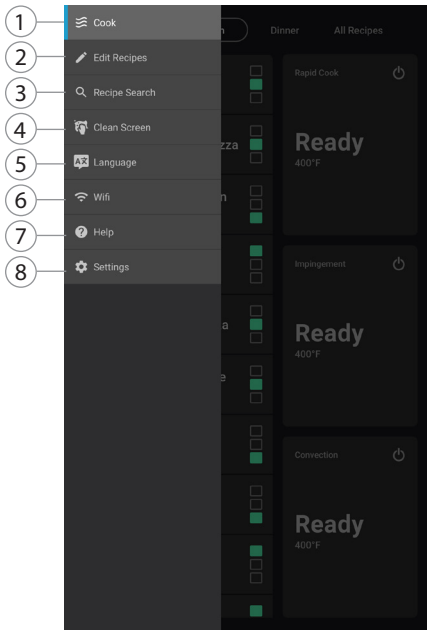

Figure 5: PLEXOR Oven Menu
- Before wiping down the user interface, touch the three bars **≡** in the top-left corner to access the “Clean Screen” mode (page 10, figure 5). When this option is selected, the screen will temporarily lock for 10 seconds to allow for cleaning.